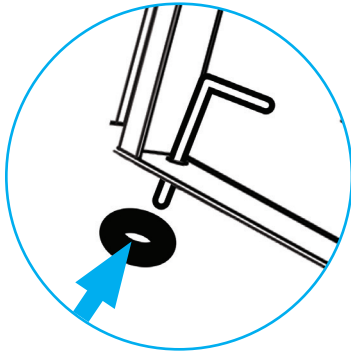

Figure 4
4. Install the **Washer** (retained in **Step 2**) onto the **Bottom Pin** on the **Lower Inside Corner** of the **Door**. (Figure 4)